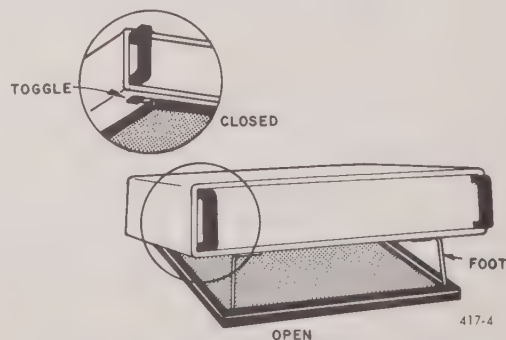

Figure 2-2. Type 1820 bench model positioning.
- Place the right thumb on the right-hand release toggle and the left thumb on the left-hand release toggle (Figure 2-2).